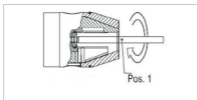

Figure 10: Screwing in assembly tool
2. Screw the assembly tool (item 1) clockwise into the threaded pin (see "Figure 10: Screwing in assembly tool").